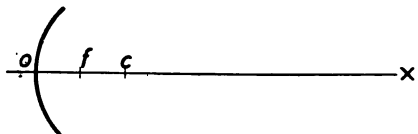

FIGURE 76. — THE PRINCIPAL POINTS OF A SPHERICAL MIRROR.
119. Meaning of Terms. — In Figure 76 the point c is the *center of curvature*, and is equidistant from all points in the surface of a spherical mirror. The line XO is the *principal axis*, and is the line passing through the center of curvature (c) and the center of the mirror (O).